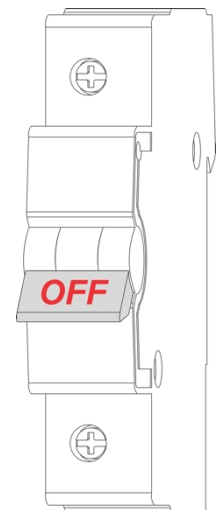

Figure 1:
1. FIRST ENSURE THE POWER IS OFF at the main circuit breaker (Fig. 1), and then test the wires with a probe or multimeter to verify.